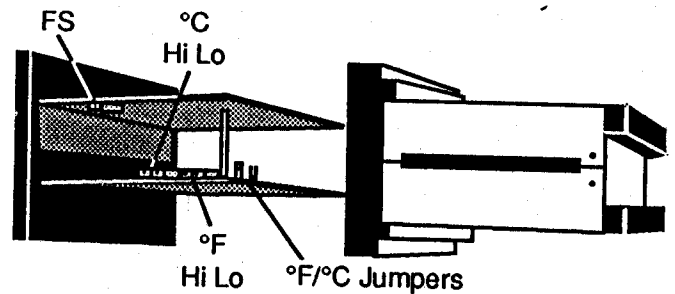

Figure 8 - Jumper Position and Pot Location
2. Place Jumper W8 on J7 (°C), See Figure 8, Page 6. Connect power to the control. Let the control stabilize before calibration begins.
- * See Figure 8, for the location of the calibration pots. Refer to Table 1 below for calibration values.